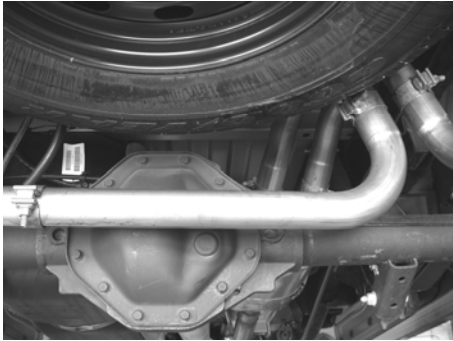

Figure 11
5. Place a clamp over the expanded end of the left intermediate pipe and place it into position as shown in figure 11. **DO NOT** tighten the clamp.